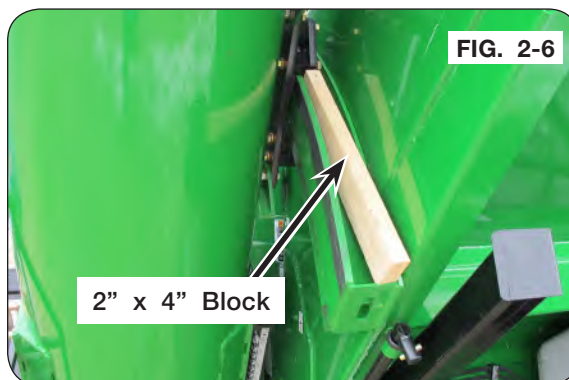

FIG. 2-6
7. Remove and discard the wood block from the auger pivot. (Fig. 2-6)